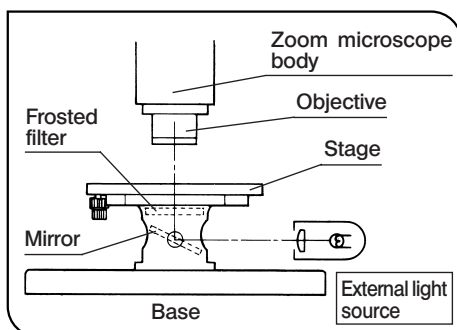

Fig. 24
(Fig. 24)
1. Illuminate the specimen with an external light source (illuminator, light guide illuminator, etc.). Light the external light source as shown in Fig. 24 and irradiate the mirror assembly.